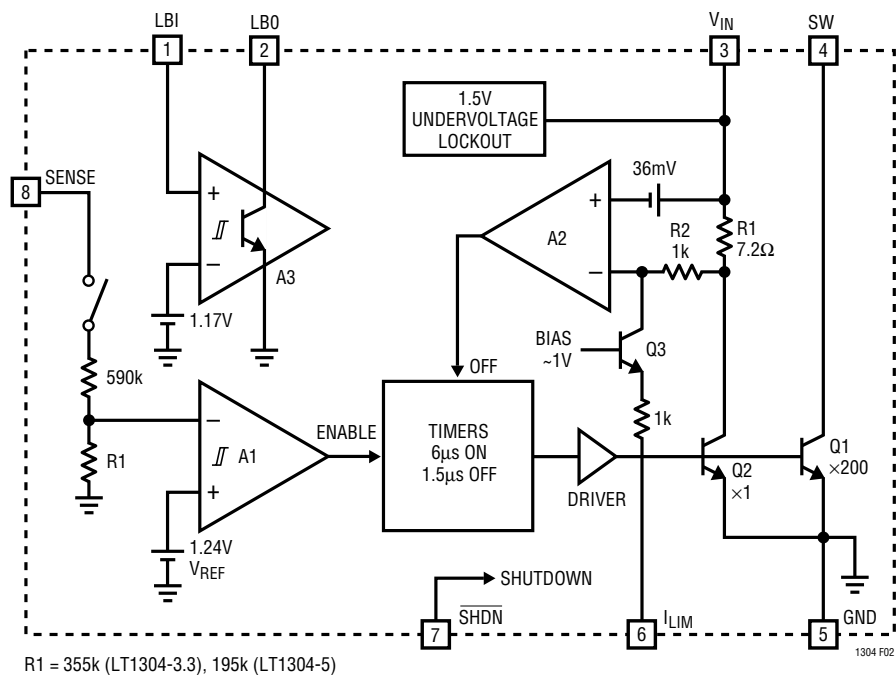

Figure 2. LT1304-3.3/LT1304-5 Block Diagram
**Figure 5. Start-Up Response with 1 $\mu$ F/1M $\Omega$  Components in Figure 2 Added. Input Current Is More Controlled.  $V_{OUT}$  Reaches 5V in 6ms. Output Drives 20mA Load**